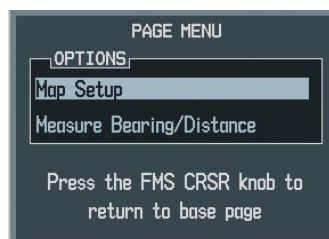

Figure 6-37 Page Menu
- 2) Select the Map Setup option (Figure 6-37) and press the **ENT** Key.